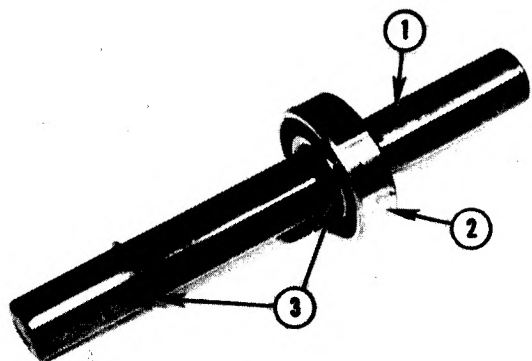

FIG. 10.14--INPUT SHAFT AND BEARING
19. Install retaining rings and one bearing on input shaft, Fig. 10.14.